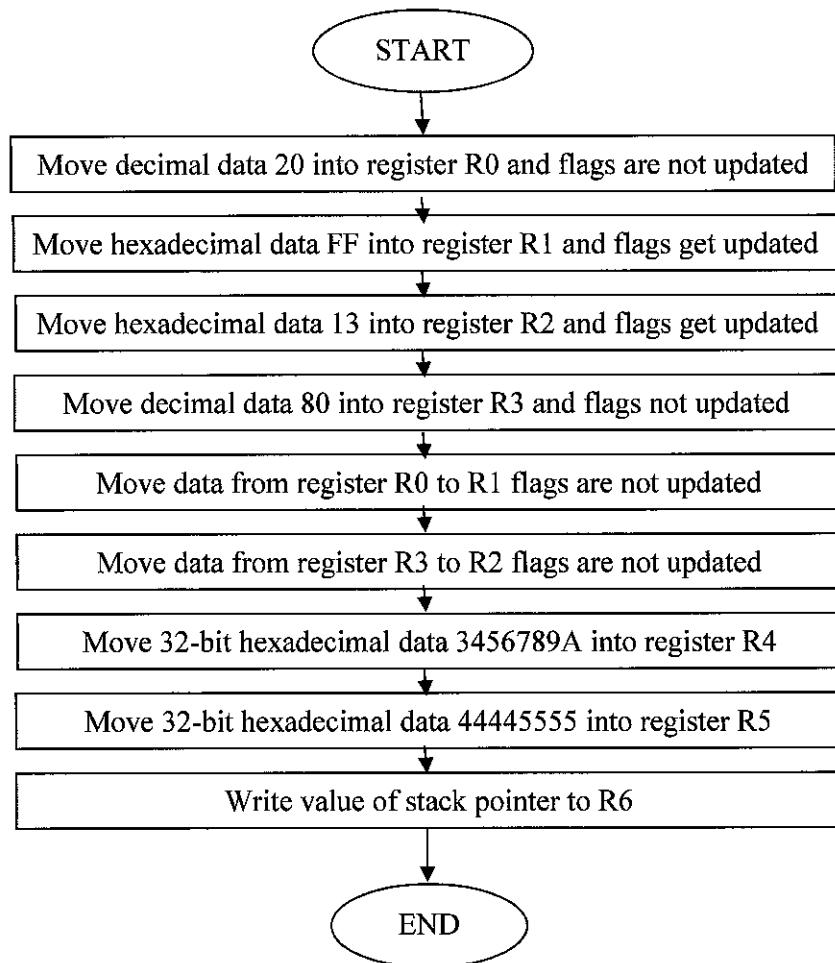

Figure A2(c)/ *Rajah A2(c)*
- (c) Write a program that executes the process described by the flowchart in Figure A2(c)